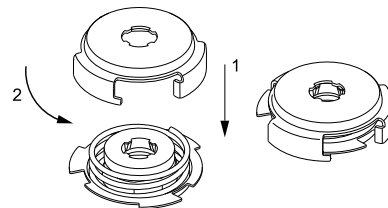

Fig. 25 Fitting the spring and driver
7. Fit spring (pos. 108) and driver (pos. 112). See fig. 25.